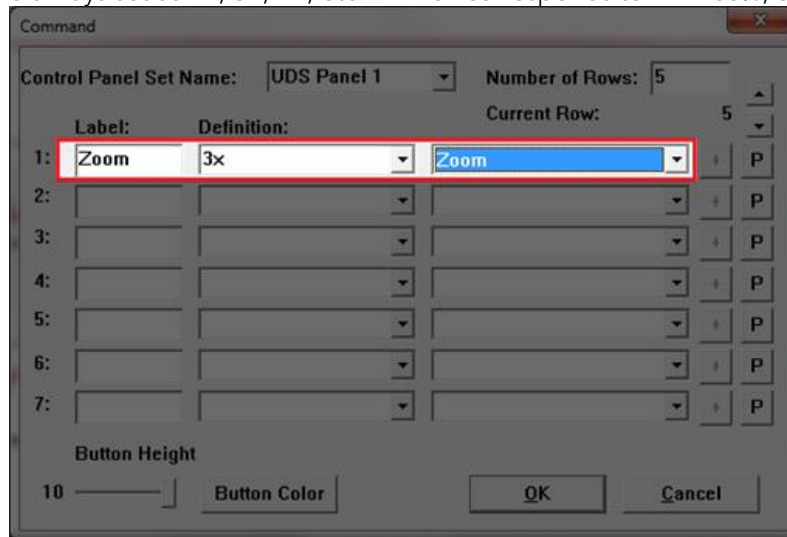

Figure 41: Command Window – Zoom Button Setup
3. Type the name under the **Label** column, the zoom value under the **Definition** column, and select the **Zoom** description under the listing in the third column (Figure 41).